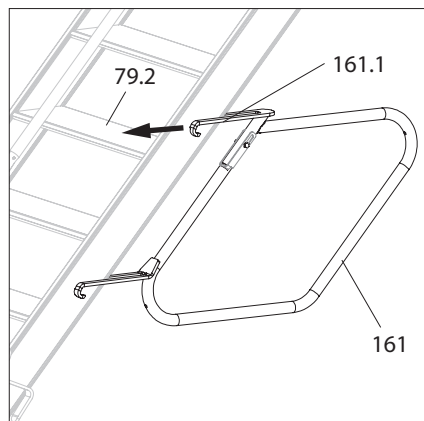

Fig. A8.07a
1. Attach the stair guardrail from the back of the staircase to the stair rail using the mounting rings (161). (Fig. A8.07a)